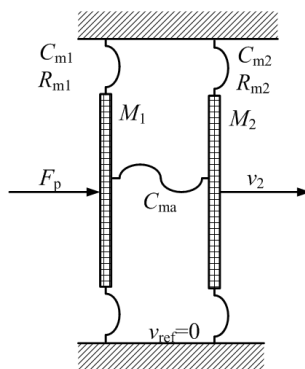

Figure 1 – double pane partition
Let's consider the double pane partition system, made of 2 panels of wood attached to a rigid structure (null velocity), separated by a plenum (small volume) of air as shown on figure 1. We assume the left side panel (1) is subject to a (pressure) force F_p , and the right-side panel (2) presents a vibratory velocity v_2 (the left-side panel can be characterized by the velocity v_1). We assume that each wooden panel behaves as a mass-spring-losses system (M_i, R_{mi}, C_{mi}), and the air plenum can be modeled as a pure compliance (additional spring) C_{ma} between the two panels.